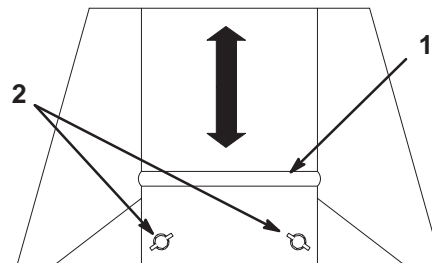

Figure 7
2. Loosen the 2 nuts on the mowing conditions plate and slide the plate up if you are mowing short, dry grass or slide it down if you are mowing long, wet grass (Fig. 7).